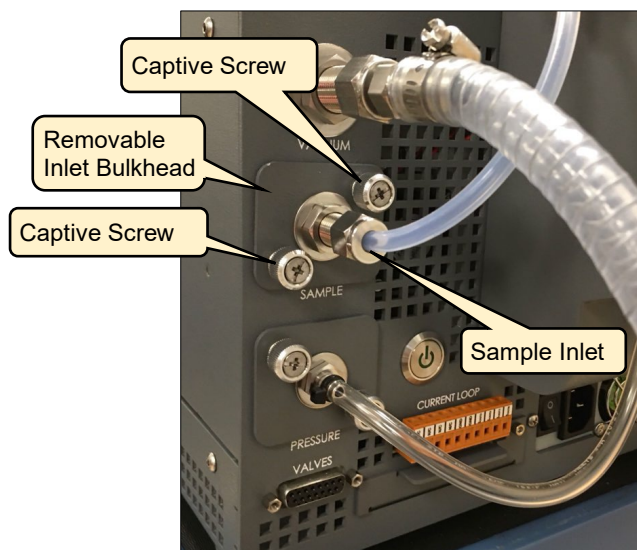

Figure 48: Sample Inlet Port
2. Figure 48 shows the sample inlet filter assembly after removal. It is not necessary to remove the hose from the sample inlet port.